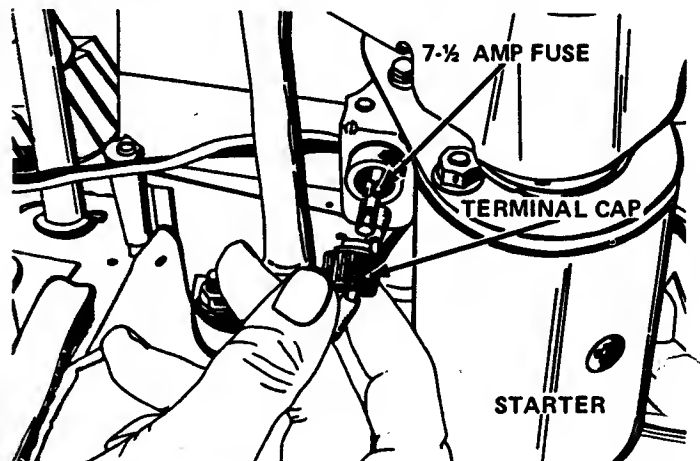

Figure 24
**IMPORTANT: REVERSED BATTERY CABLES OR REVERSED CABLES FROM A BATTERY CHARGER OR BOOSTER BATTERY CAN BLOW THE 7½ AMP FUSE SHOWN IN FIGURE 24. ALWAYS DISCONNECT THE TERMINAL AT THE FUSE WHEN CHARGING THE BATTERY OR WHEN ELECTRIC WELDING IS DONE ON THE TRACTOR.**